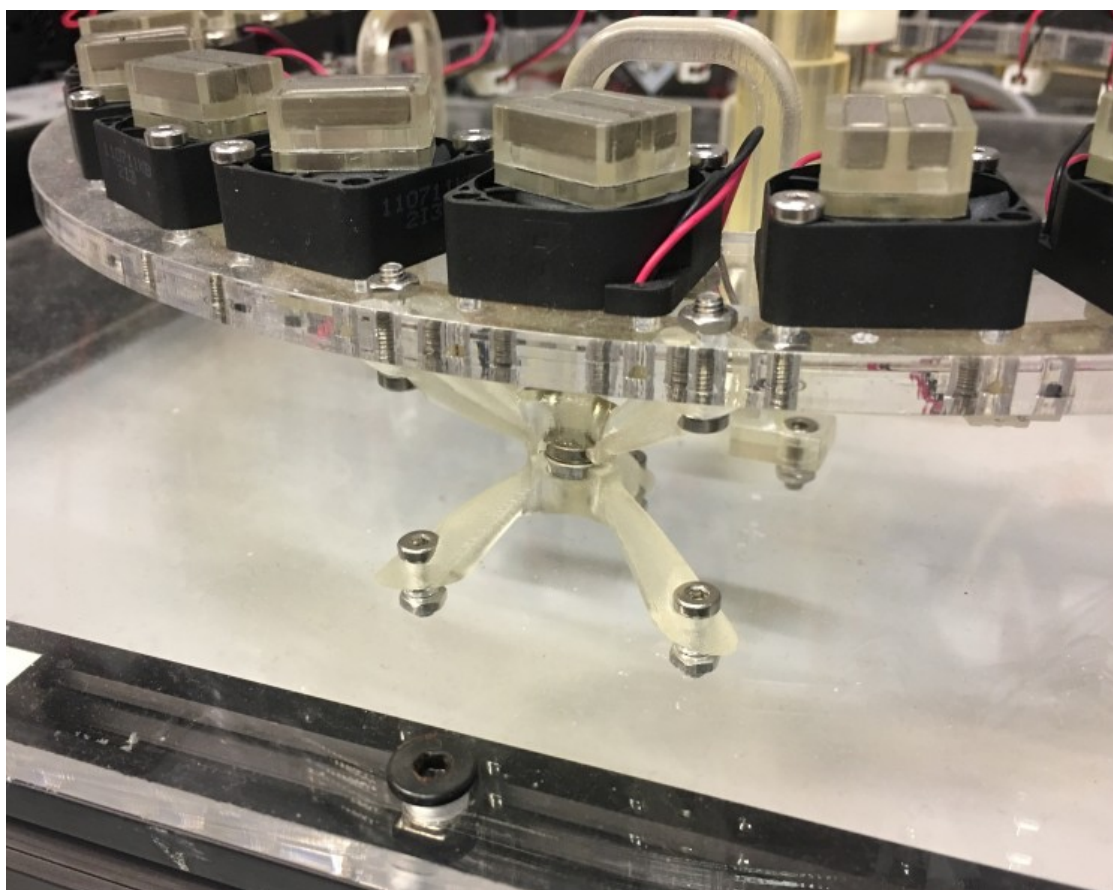

Figure 18 Tripod magnet relationship, base to stirring ring
**Test the alignment of the magnets by combining the stirring ring and base frame before continuing. Figure 18 shows what this assembly point should look like.**